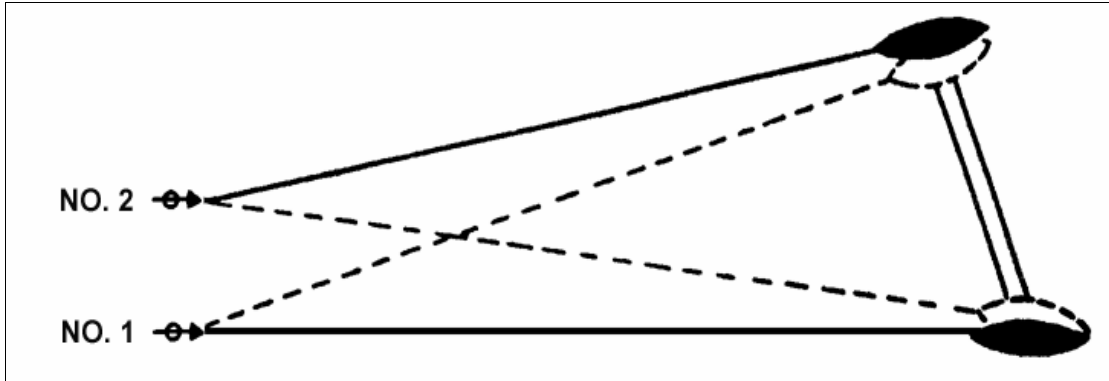

Figure 5-19. Two MK 19s, linear target with depth.
(2) *Two MK 19s, Flanks Visible.* Gunners use the same method as for engagement of a deep linear target: they must search to keep the center of impact on the target. The leader determines the range for the initial fire command the same as for a deep target (Figure 5-19).